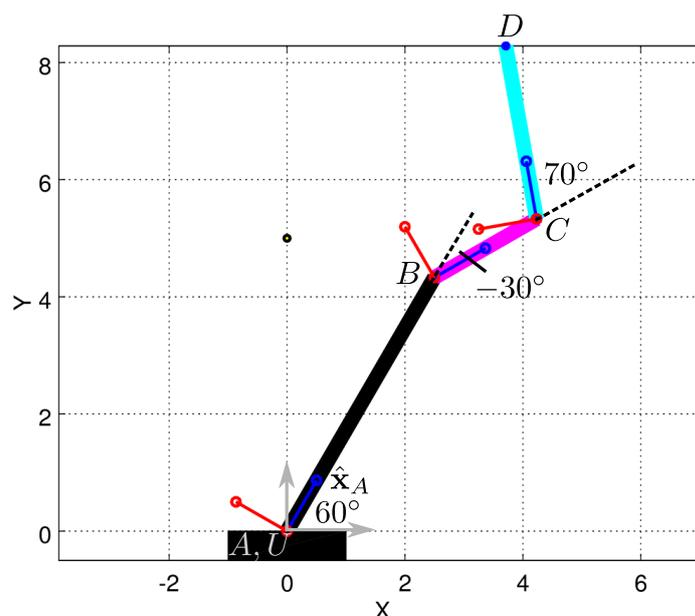

Figure 5: Robotic manipulator with three links
2. Consider the three-link robotic manipulator shown in Fig. 5. The lengths of the three links are given as